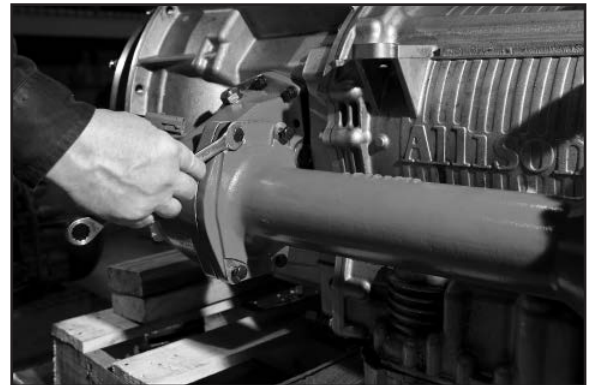

Figure 18
16. Install the 4 Hex Head Cap Screws (378431-13, 3/8"-16 x 1.375") and flat washers 380076-07 to make the final attachment between the input housing and the tube assembly. Torque the Cap Screws to 30-35 lb-ft [41-47 N-m] (**Fig. 18**).